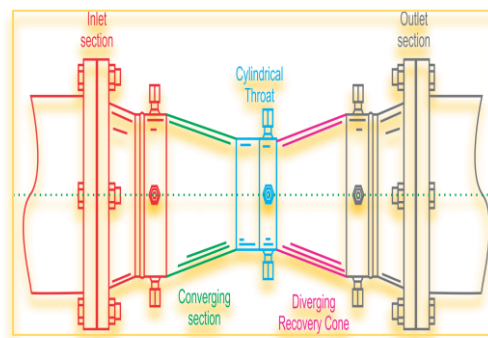

Figure1. Venturimeter
- Start the pump, operate the valves as shown in figure1.